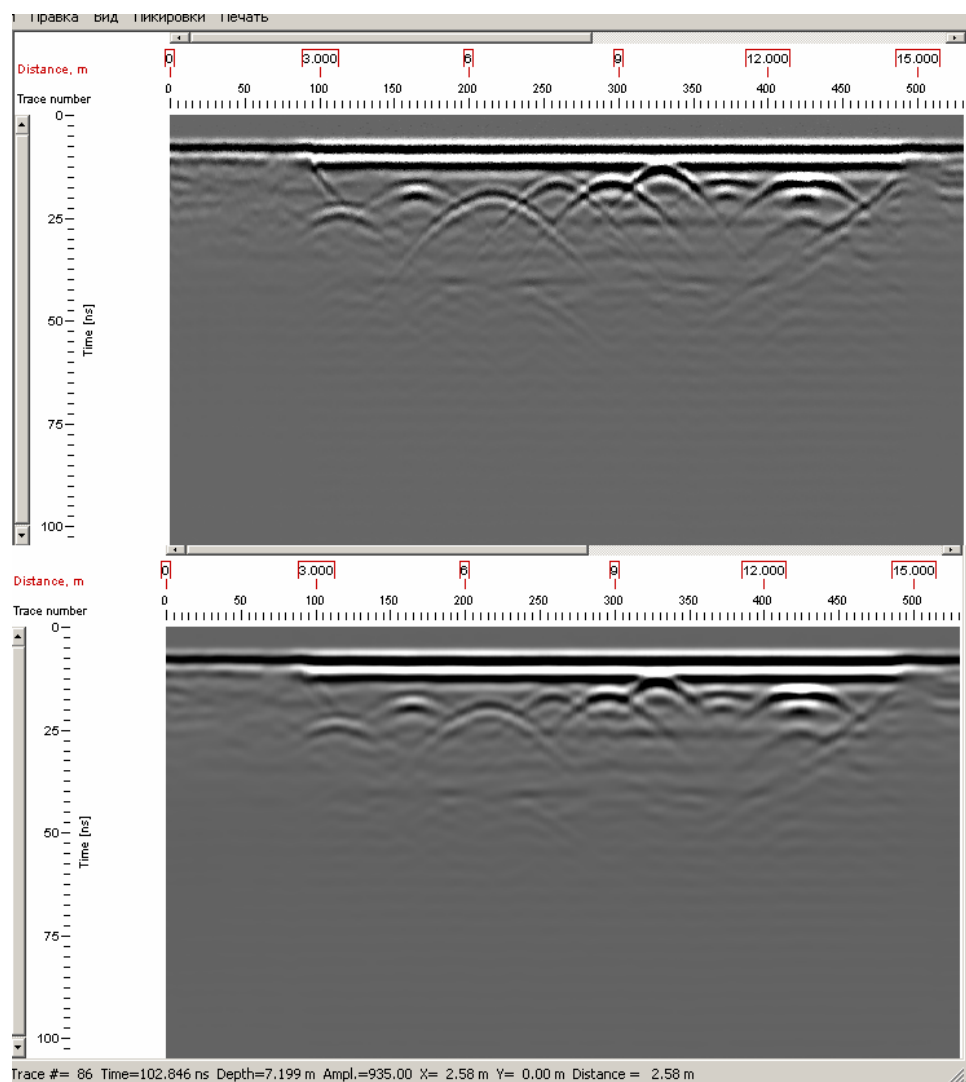

Fig. 5.5.12 – 2D filter application in a normal mode. Above – initial data, below – data after the “2D Filtering” routine application
- In the “Normal” mode the value of the sample in the center of the two-dimensional filter operator is replaced by calculated value (see the example on Fig. 5.5.12).